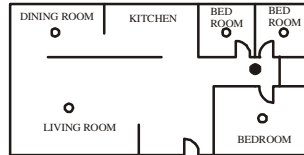

Figure 1: LOCATIONS FOR PLACING SMOKE DETECTORS FOR SINGLE RESIDENCE WITH ONLY ONE SLEEPING AREA
• Install a smoke detector in the hallway outside every separate bedroom area, as shown in Figure 1. Two